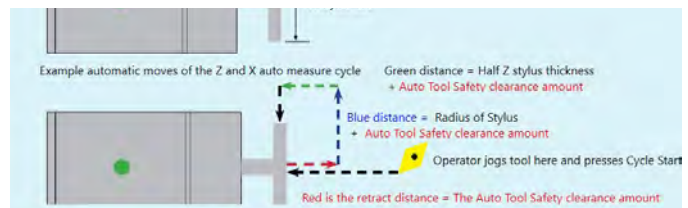

FIGURE 15
D. After you click on Cycle Start, the tool will move toward the probe and touch off in the Z-axis first, and then the X-axis as shown on the probe setting page (see Figure 15).